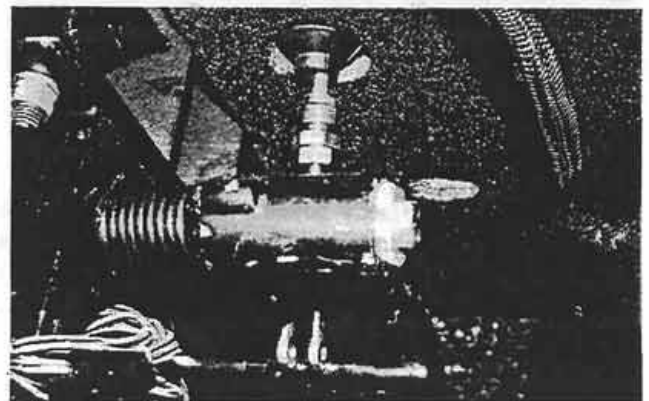

Figure 10:
4. Guide the pedal push rod through the dust boot and fasten the cylinder to the cab (Fig. 10). Reconnect the pushrod and clevis at the brake pedal, if it was previously removed.